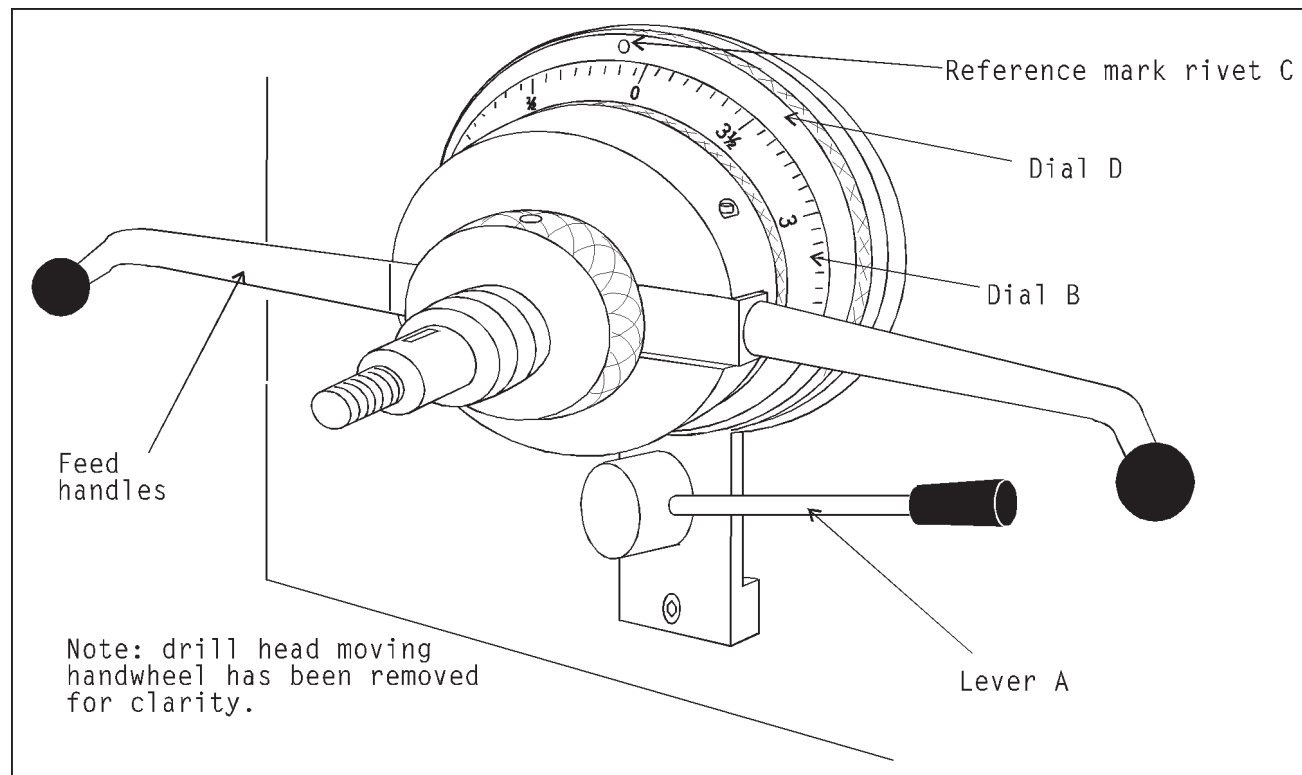

Figure 2: Power feed controls
1. Unlock lever A -- See Fig. 2.